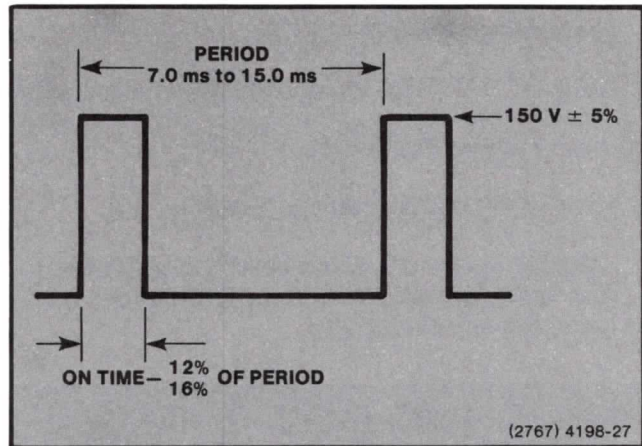

Figure 4-11. Flood Gun Anode Waveform.
- b. CHECK — for the waveform in Figure 4-11 at TP 91 on the Storage board while the terminal is in Hold mode.